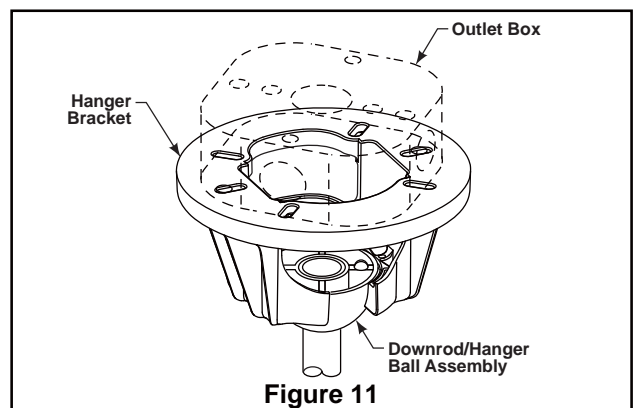

Figure 11
2. Carefully lift the fan and seat the downrod/hanger ball assembly on the hanger bracket that was just attached to the outlet box. Be sure the groove in the ball is lined up with tab on the hanger bracket. (Figure 11)